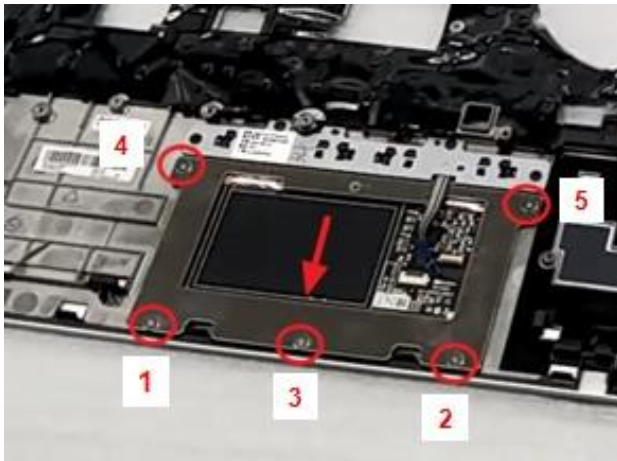

Fig.2
2. Loosen click pad screw*5(M2.0*3.0), then disassemble click pad module from top case(Fig.2).